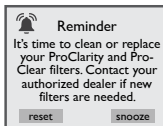

Figure 15.0d
22. ProClarity/ProClear Filter Reminder: This message will appear when the filter reminder time has expired (Figure 15.0d). Remove the ProClarity/Proclear filters and filter/debris bag for cleaning or replacement.